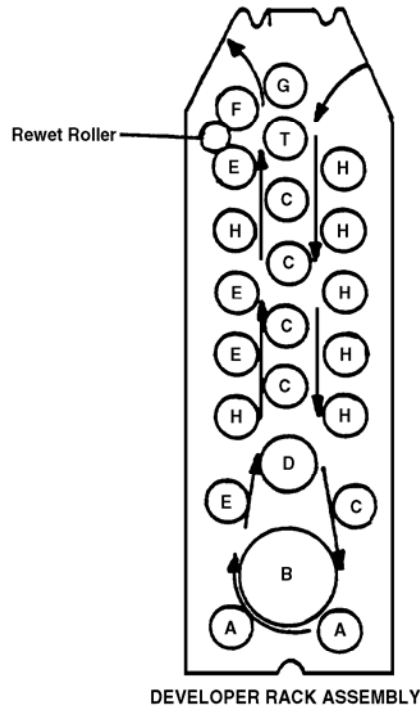

Figure 2-11. Roller configurations.
(5) Check rollers. Be sure all sprockets are properly engaged in the rack chain. Check all rollers visually for unusual warping and bow. Be sure the rack itself is square. Pay particular attention to the roller configuration. Refer to figure 2-11.
- (3) Check the guide shoes. Examine ribs and tips of the guide shoes for burrs. Use fine number 400 sandpaper to remove any roughness.
- (4) Check the rollers. Check the "A" rollers. Refer to figure 2-11.